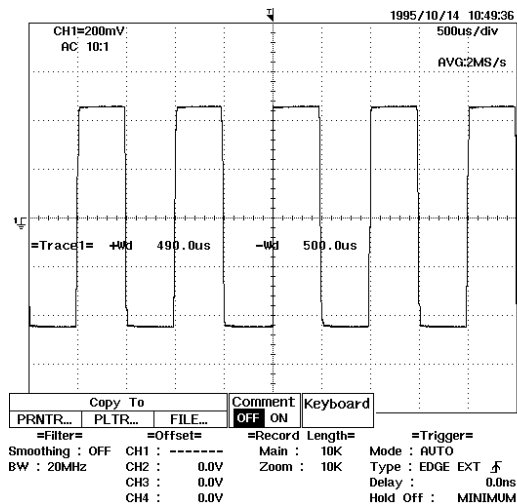

Figure 3.6 Adjustment Waveform
- 5) Connect the probes attached to ch1 of DL1540C/DL1540CL to TP9 and TP2 terminals on Rear Assembly. Adjust the variable resistor (VR1) so that the duty of the observed waveform falls with 50±3%, as shown in Figure 3.6 Adjustment waveform.